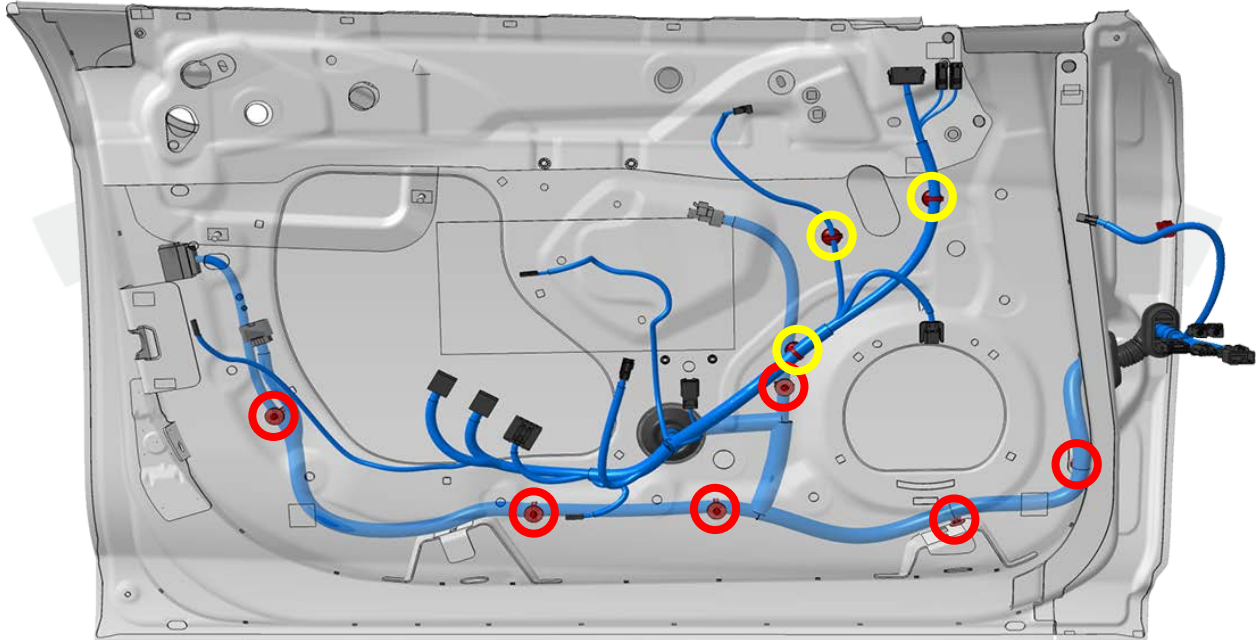

Figure 7 (LH shown)
1. Place the new harness through the large opening in the inner panel. Route the trim panel section of the harness through the lower hole in the inner panel (Figure 7).
2. Install the 9 retainer clips into the door (Figure 7). The red circles show clips that are inserted from inside the door shell; the yellow circles show clips that are inserted from outside the door shell.